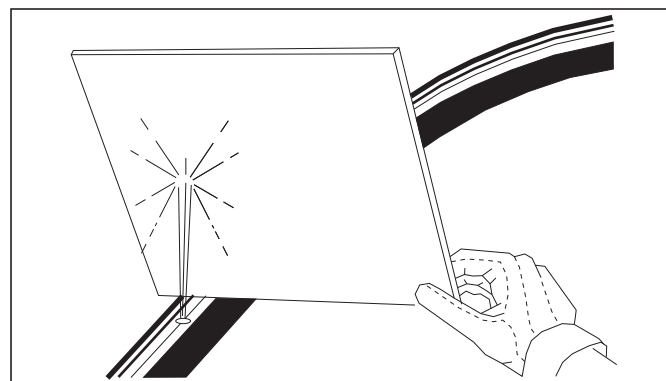

Figure 4-1: Hydraulic Leak Detection
- Use cardboard instead of hands See Figure 4-1.